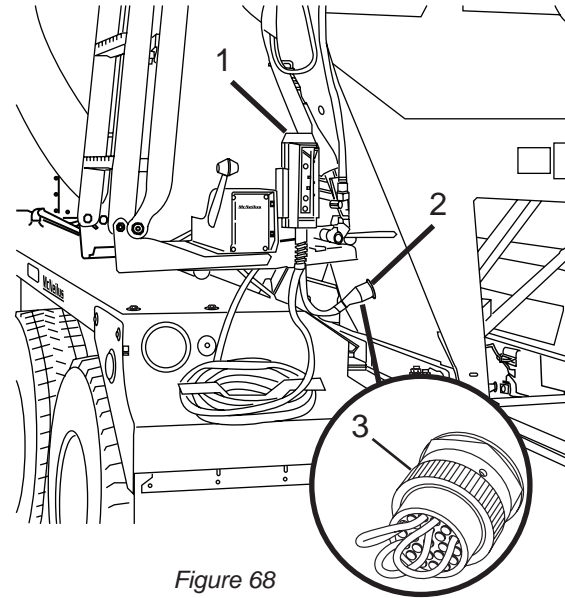

Figure 68
If the optional rear pendant (Figure 68, Item 1) is lost, or becomes damaged or faulty, a jumper plug (Figure 68, Item 3) must be installed in the rear pendant socket to allow operation of control functions from the cab control box.
2. Disconnect the rear pendant harness connector (Figure 68, Item 2) from the rear pedestal.
3. Install a jumper plug (Figure 68, Item 3) into the rear pendant harness connector. Purchase the jumper plug from www.streetsmartparts.com or by calling Revolution Parts at (855) 202-6491.